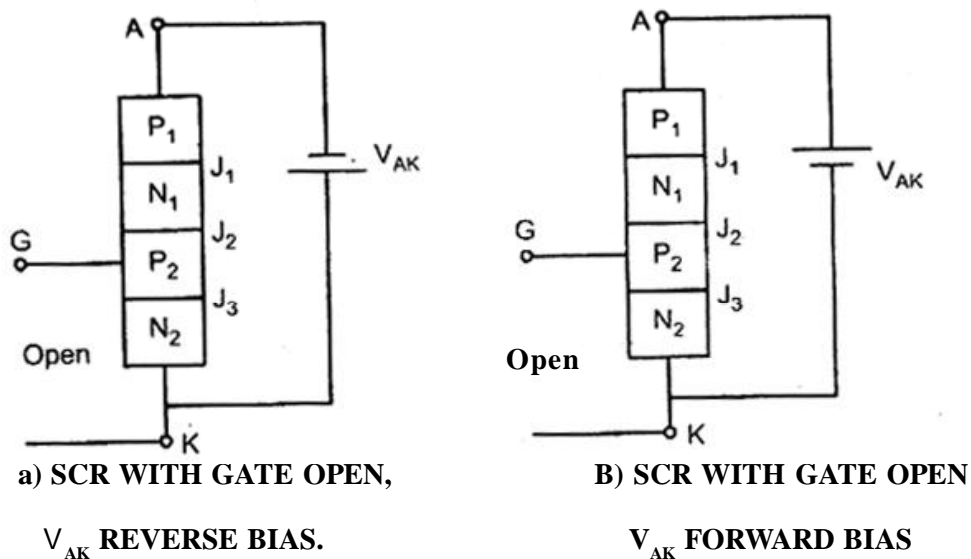

Fig 5.9
- * In Fig 5.9 (b), when anode terminal of SCR is connected to positive terminal of power supply and cathode terminal of SCR is connected to negative terminal of power supply, junction J_1 and J_3 are forward biased and junction J_2 is reverse biased.